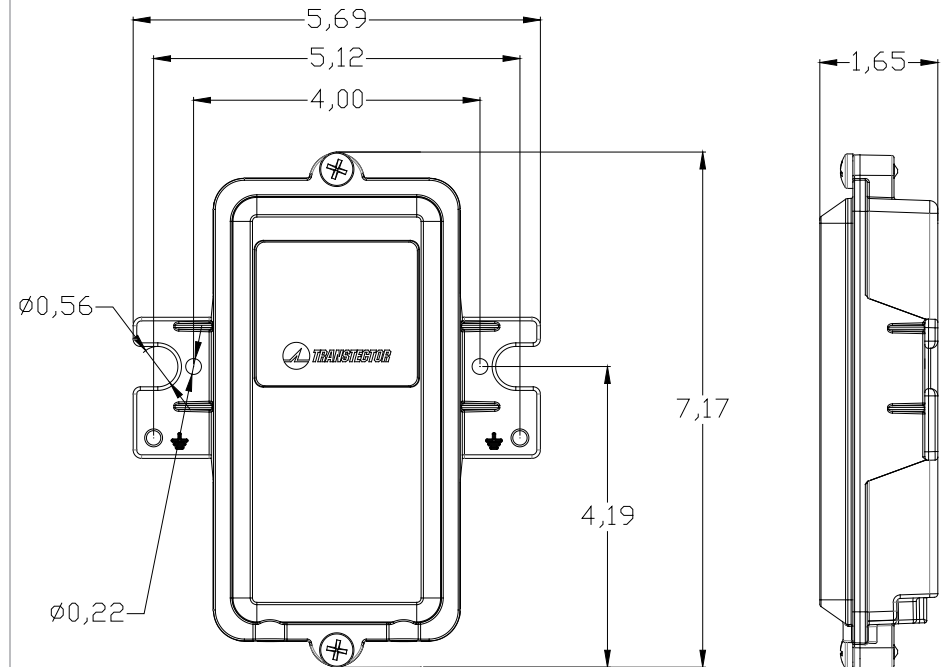

Figure 1 - Mechanical outline drawing (inches)
1. The ALPU-PoE-INJ is intended to be installed indoors or outdoors, on wall or pole mount applications. The unit features mounting feet on the sides that mount on 4" center-to-center holes with #10 sized hardware. The mount foot also adapts to 4" diameter pole mounting kits with a 4.5" center-to-center holes and larger hardware. Refer to figure 1 for mechanical requirements and connector locations. The optimum ground connection on the metal enclosure unit at the mounting flange on either side is shown in Figure 1. Use minimum 8awg wire for a ground reference attachment. Communication cables with the RJ45 connectors already installed can feed directly into the enclosure. Be sure to install the cables with the unprotected cable installed into the left "in" jack and the protected equipment cable in the left "out" jack. The enclosure features a built in cable retention that grips the cable with a screw down bracket. A pole mount adapter kit (pn 1000-1164) is available to meet installations on a wide range of pole diameters from 2" metal fence poles to 10" diameter utility poles.
2. Mount the unit to an outside surface using the two mounting holes shown in figure 1.